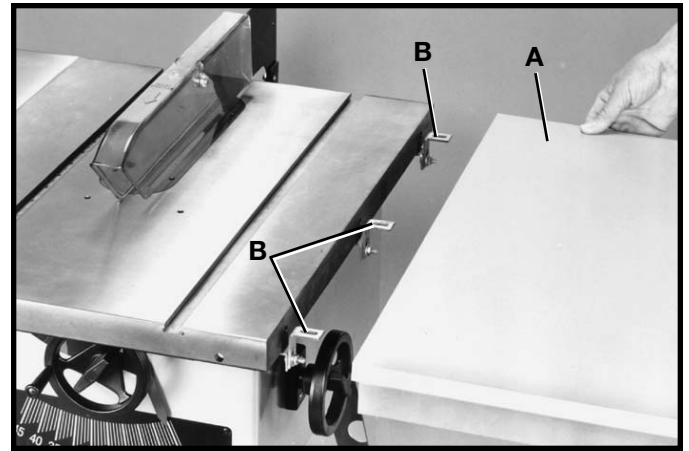

Fig. 54
1. Position table board (A) Fig. 54, onto angle brackets (B).